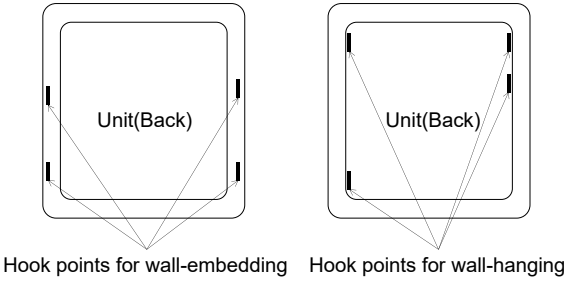

Fig. 3.4.5
- Check the hook embedding position (hole) on the back of the unit (Fig. 3.4.5). Please note that the hook embedding position differs between wall embedding and wall hanging.